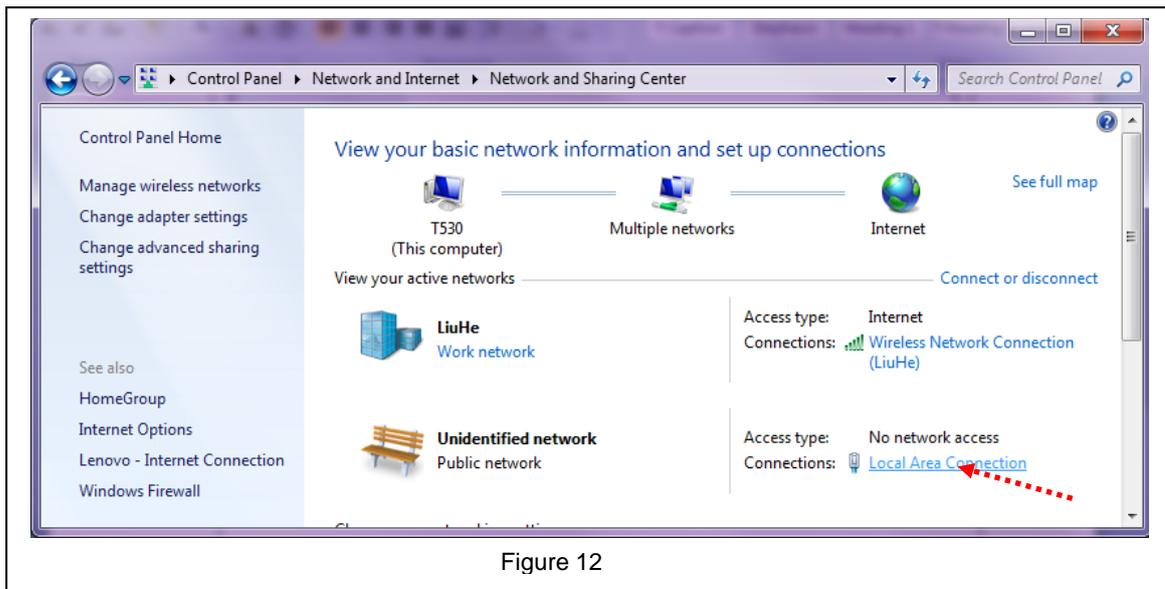

Figure 12
**13.3** After click View network status and task, you'll see new window as Figure 12. Then double click